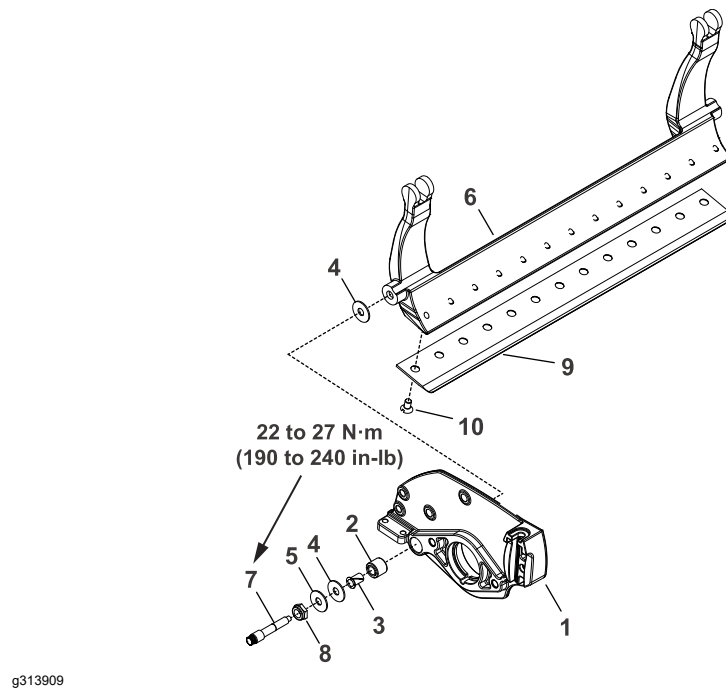

Figure 99
4. Loosen the locknuts (item 8 in Figure 99) on each bedbar bolt (7).
5. Remove the two bedbar bolts (item 7 in Figure 99), two flat washers (5) and four plastic washers (4) from the cutting unit side plates (1).
6. Remove the bedbar assembly (8) from the cutting unit.
7. Inspect the nylon bushings (item 3 in Figure 99) and rubber bushings (4) in the side plates for wear or damage. Replace the bushings if necessary.